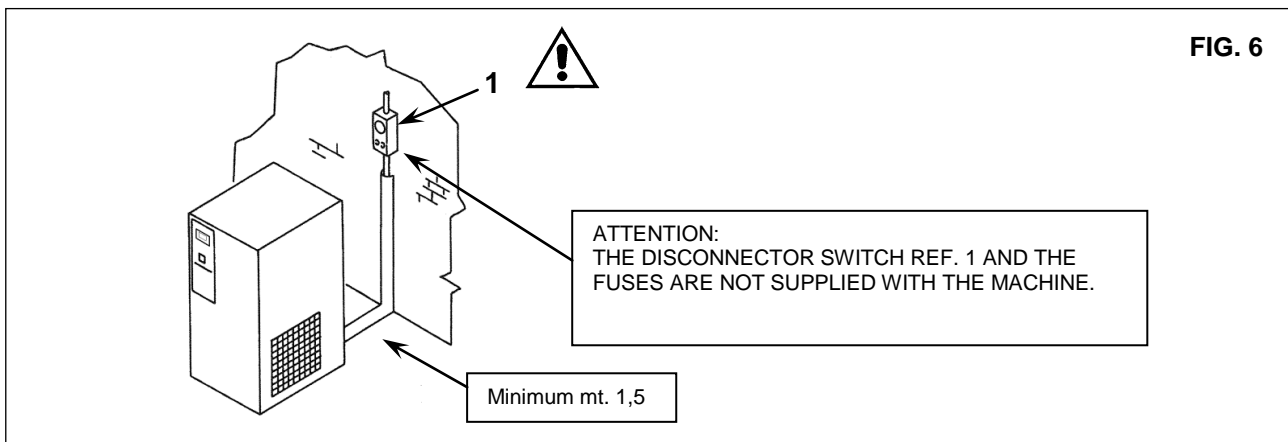

FIG. 6
- ensure that there is sufficient space around the machine to allow maintenance (see Fig. 6).
- **Ensure that there are disconnect switch Ref. 1 Fig. 6 and fuses upstream the machine. For details (size and type) see wiring/service diagram.**